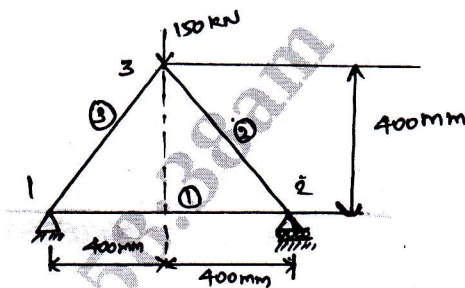

Fig Q4(a)
- 4 a. Consider the three bar truss shown in Fig Q4(a). Determine the nodal displacement and stress in each member. Find the support reactions. Take $E = 2 \times 10^5 \text{ MPa}$.